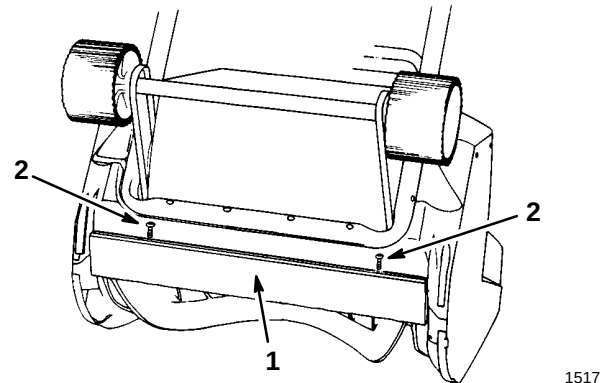

Figure 11
1. Remove (2) screws securing scraper to snowthrower (Fig. 11).
2. Install new scraper and fasten securely with (2) screws.